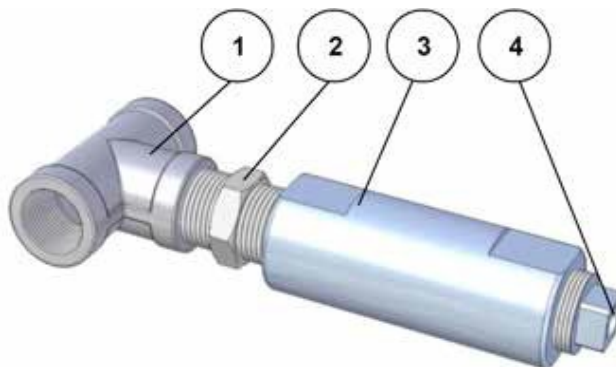

Fig.3 ICEGUARD™ Details
- It is imperative to the performance of the ICEGUARD™ to ensure that all pipe work in the system is insulated as detailed in Figures 1 and 2. Exclude only the two ICEGUARD™ valves detailed in Figure 3 from insulation.
It is imperative to the performance of the **ICEGUARD™** to ensure that all pipe work in the system is insulated as detailed in Figures 1 and 2. Exclude only the two **ICEGUARD™** valves detailed in Figure 3 from insulation.
- With reference to Figure 3, separate the T-piece (1) from the Hex Nipple (2) using appropriate spanners. Repeat this step for the remaining **ICEGUARD™** also.